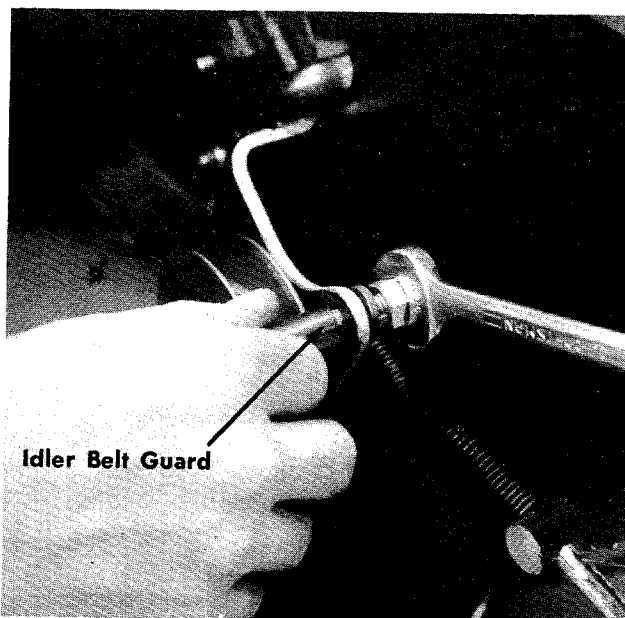

FIGURE 11 IDLER BELT GUARD
- k. Remove the idler belt guard. See figure 11.